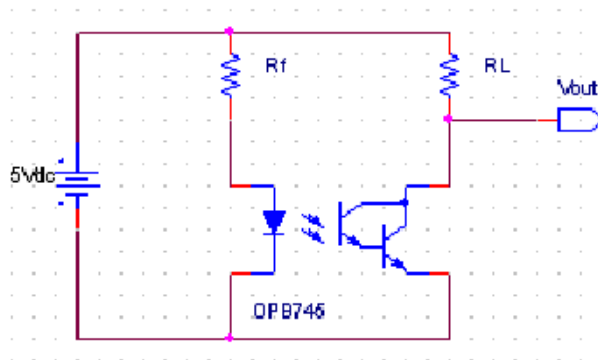

Figure 3.3: OPB745 Circuit for Part 1
2. Using the isolation chamber constructed in the pre-lab portion of the exercise, the attached OPB745, and the R_F value from pre-lab, construct the circuit shown in Figure 3.3 on a breadboard.